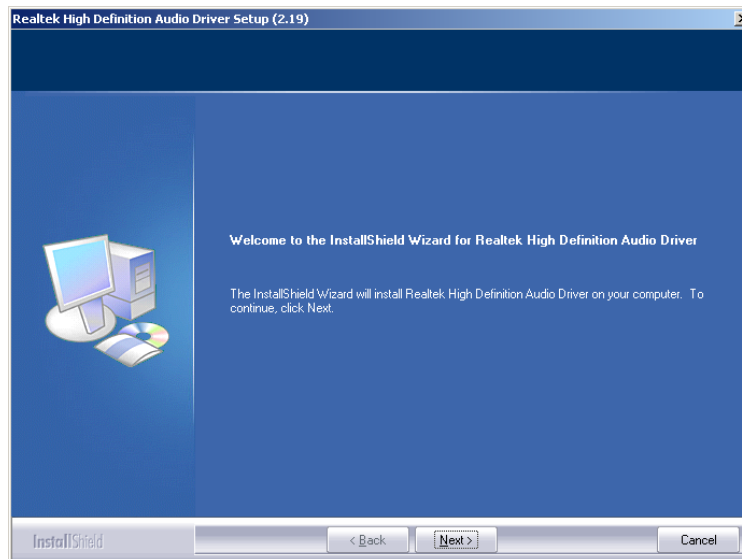

Figure 6-21: InstallShield Wizard Welcome Screen
Step 5: Once initialized, the **InstallShield Wizard** welcome screen appears (**Figure 6-21**).